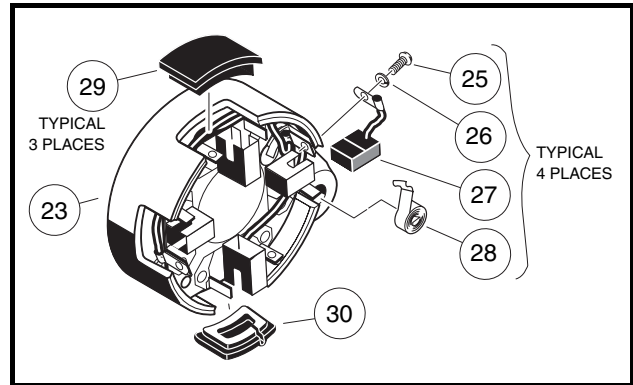
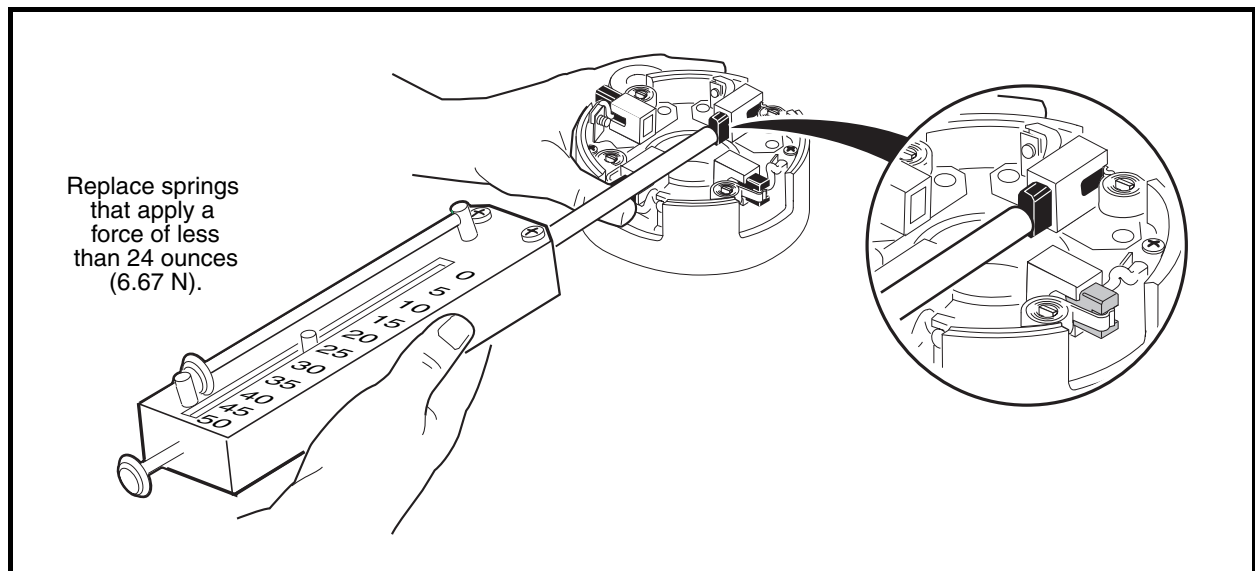

Figure 12-3 Brush Covers and Brushes
Figure 12-5 Brush Spring Tension Test
2. Remove brush covers (29 and 30), screws (25), lockwashers (26), brush springs (28), and brushes (27) (Figure 12-3, Page 12-3). See following NOTE.
2. Install the four brushes (27) into their holders and insert the four brush springs (28) (Figure 12-3, Page 12-3). Test brush spring tension with a spring scale. If any spring has a tension less than 24 ounces (6.67 N), replace all four springs (Figure 12-5, Page 12-3). See following CAUTION.
1. Connect the brush wires to the holders using four lockwashers (26) and four screws (25). Make sure the crossover leads are also connected. Tighten the screws to 31 in-lb (3.5 N·m) (**Figure 12-3, Page 12-3**).
4. Push the brushes down into the holders. Place springs into the notches in the brushes. Install the brush cover (30) that has the drain hole in it next to the A2 terminal. Install the remaining three brush covers (29) onto the openings in the commutator end cover (23) (**Figure 12-3, Page 12-3**).
10. Push the brushes down into the holders. Place springs into the notches in the brushes. Install the brush cover (30) that has the drain hole in it next to the A2 terminal. Install the remaining three brush covers (29) onto the openings in the commutator end cover (23) (**Figure 12-3, Page 12-3**).